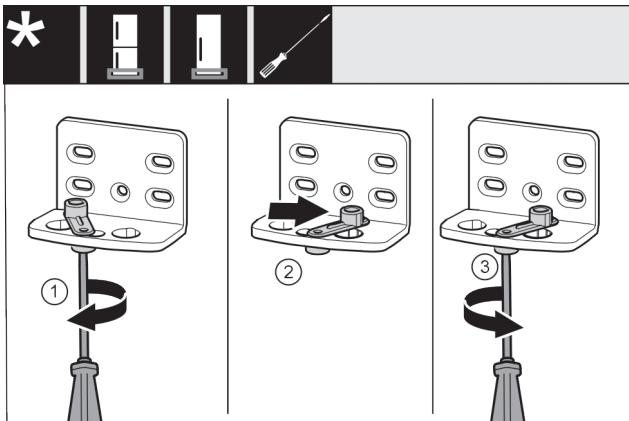

Fig. 18
- ▶ Use screwdriver to loosen the screw Fig. 18 (1).
- ▶ Lift the door closing aid Fig. 18 (2) and turn 90° clockwise in the hole.
- ▶ Tighten screw Fig. 18 (3) with screwdriver.